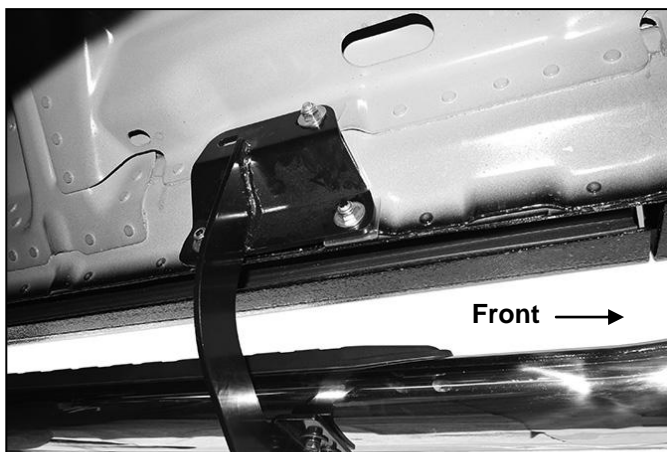

Fig 5
5. Select the Driver/left Side Step. **NOTE:** To determine correct Side Step, Step Pad is farther from front end of tube—see illustration on this page. Carefully position the Side Step onto the (2) Mounting Brackets. **IMPORTANT:** Do not slide, (front to back or rotate), the Side Step on the Brackets or damage to the finish may result. Attach the Side Step to the Mounting Brackets with (4) 8mm x 25mm Combination Hex Bolts, (**Figure 5**). Do not tighten hardware.